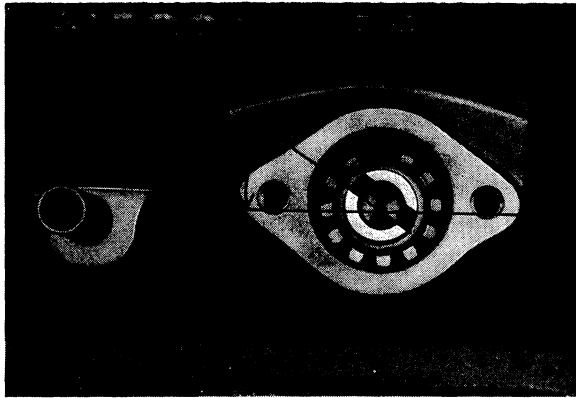

Fig. 2-51. Distributor drive position
When No. 1 cylinder is at top dead center, fit the oil pump drive and distributor. The small part at the groove is turned obliquely upwards-backwards and the groove set at an angle of 5° to the longitudinal axis of the engine, see Fig. 2-51 (A). Make sure that the shaft goes down into its groove in the pump shaft.